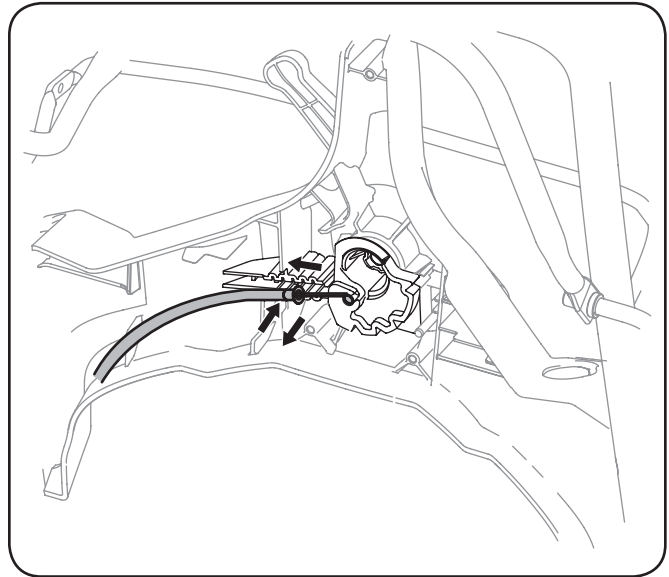

Figure 6-5
7. Using a pair of needle nose pliers or similar tool, move eyelet in cable only one slot to the left in housing as shown in Fig. 6-5.